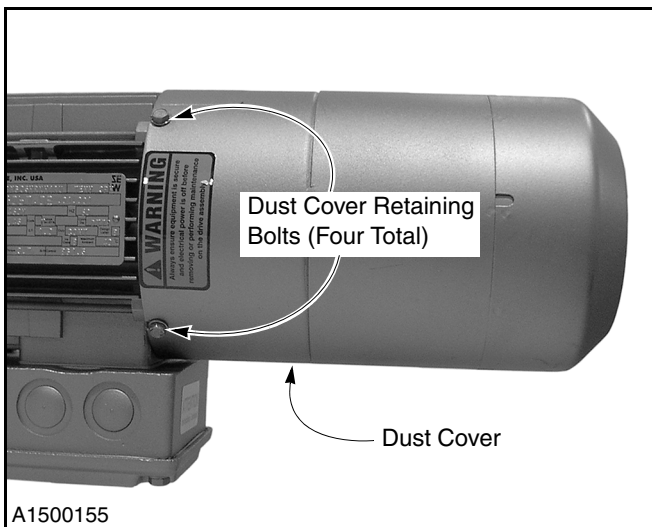

Figure 47
2. Loosen the retaining bolts securing the brake dust cover to the motor assembly. Remove the cover. (See Figure 47.)